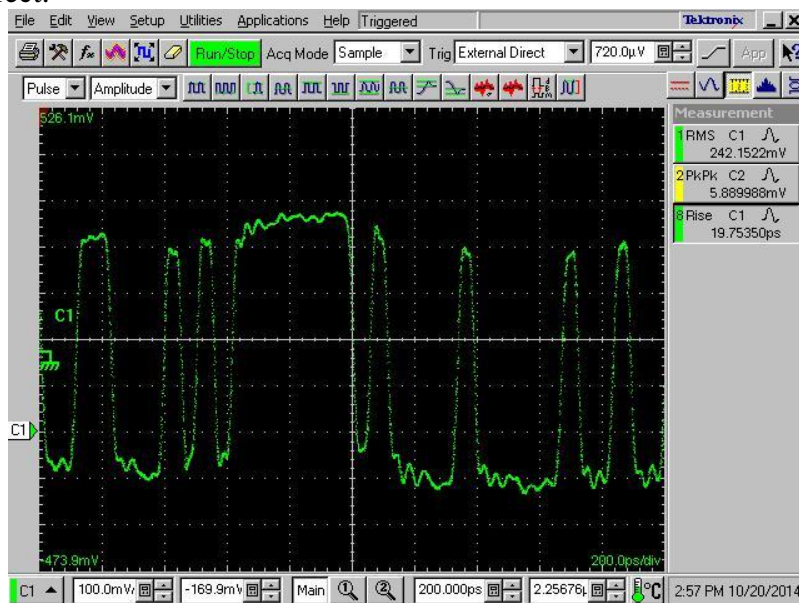

Figure 9. Incorrect PRBS7 pattern
8. Scroll/Delay the 127 bit PRBS7 pattern on the oscilloscope until you observe a sequence of data close to 7 one's followed by 6 zero's. You may find a pattern shown below in **Figure 9**, which is incorrect.